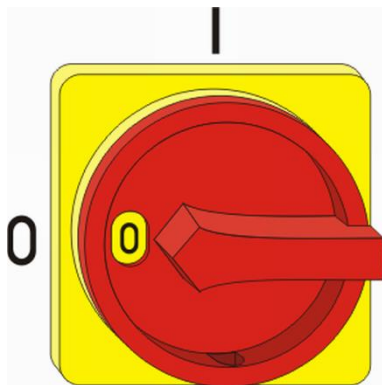

Fig. 35: main switch
1. Ensure that the main switch is in the "0" or "Off" position (Fig. 35).